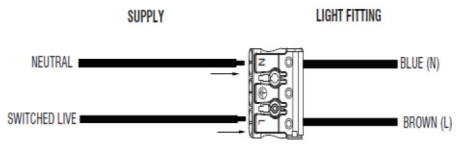

Fig 1
8. Non-Maintained Operation: Fig 1